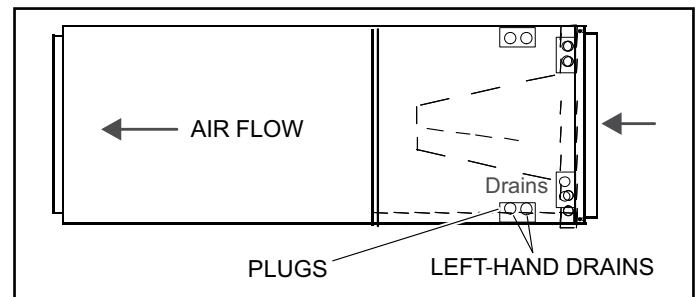

Figure 2. Left-Hand Discharge Configuration
4. A typical left-hand air discharge horizontal configuration is shown in figure 2.